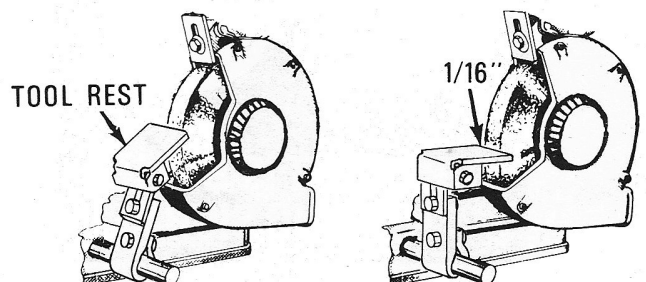

FIGURE 4
Adjust the tool rest so that the material to be ground will contact the wheel slightly above center-line of shaft at the desired angle, as shown in figure 4. The tool rests should be positioned securely so that a clearance of approximately 1/16 inch can be maintained between wheel and tool rests.
3. The tool rests should be positioned securely so that a clearance of approximately 1/16 inch can be maintained between wheel and tool rests. Adjust the tool rests so that the material to be ground will contact the wheel slightly above center-line of shaft at the desired angle, as shown in figure 4.